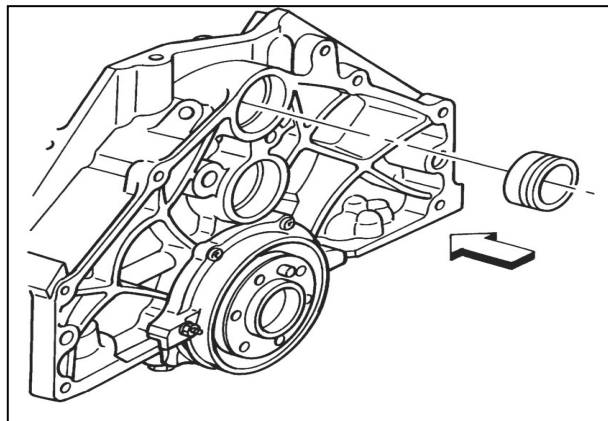

Figure 12-72 Rear Balance Shaft Sleeve Bearing
Figures 12-72 through 12-76
1. Balance shaft rear bearing using J 38834 (figures 12-72 and 12-73).